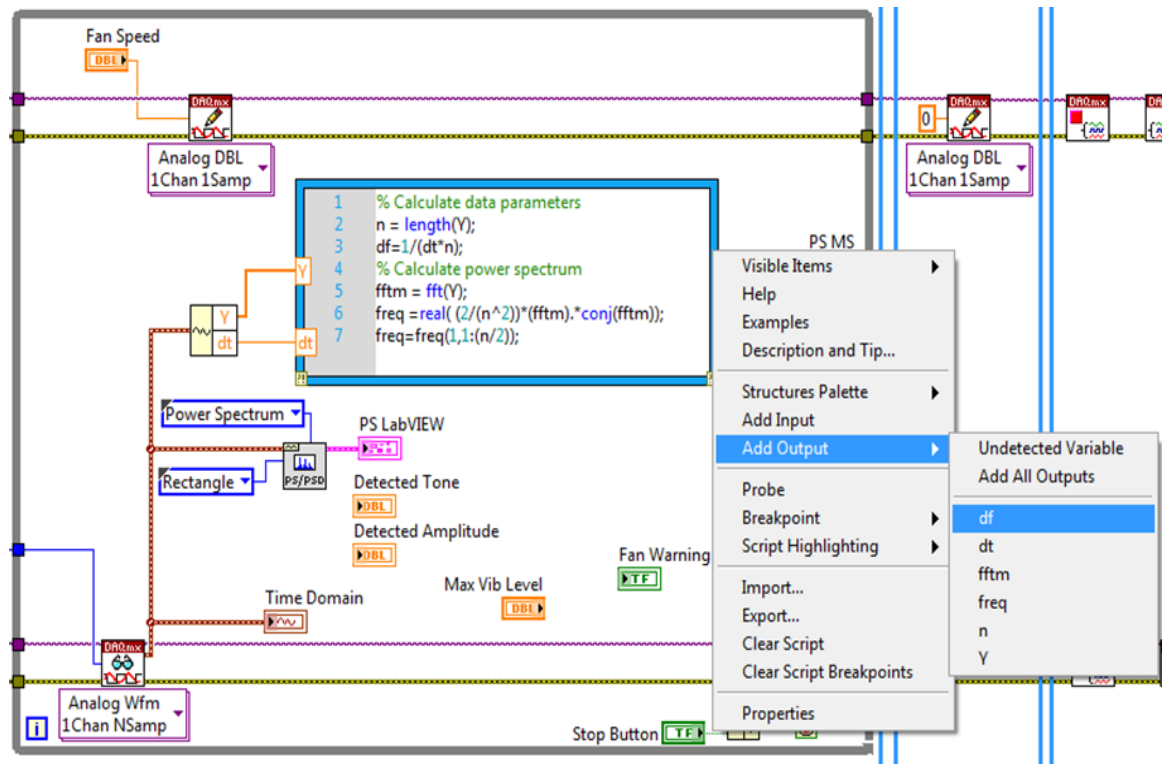

Figure 41. Right click on the edge of the MathScript Node to add outputs.
22. Wire the Outputs of the Get Waveform Components VI into the respective MathScript Node inputs (left side of the MathScript Node), as shown in Figure 41.